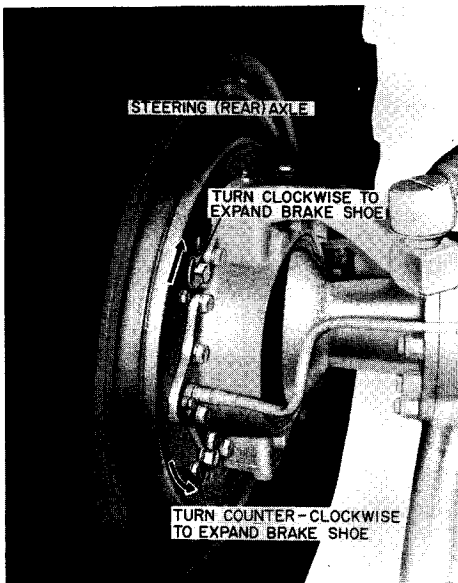

Figure 86
2. Expand brake shoes on each rear wheel, as shown in Figure 86, until a heavy drag is felt when rotating the wheels.